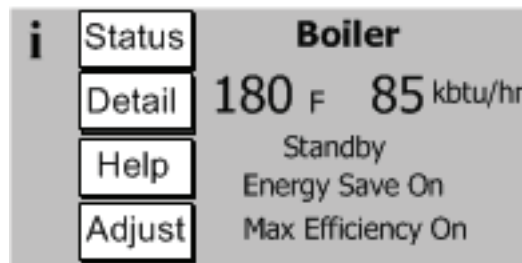
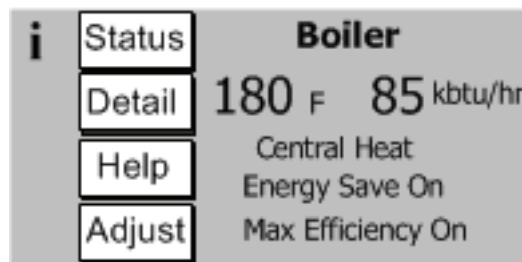

Figure 11.1a: Home Screen at Power-Up (No Call for Heat)
Figure 11.1b: Home Screen on Heat Demand
11. Start the boiler using the operating instructions on page 105. With the boiler powered up, and with no call for heat, the display should look like Figure 11.1a. Once a call for heat is present, it will look like Figure 11.1b.